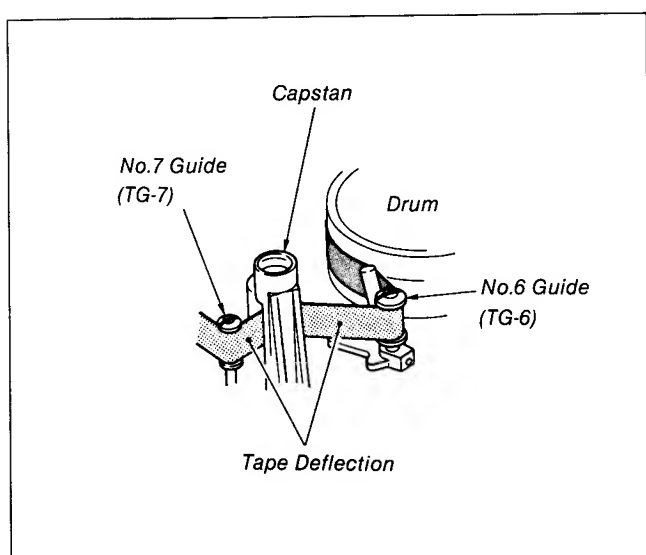

Fig. 8-66.
- 4) In the PLAYBACK mode, confirm that the RF waveform horizontally rises within 1 second. Confirm also at this time that there is no tape deflection around the pinch roller. (Refer to Fig. 8-66.)